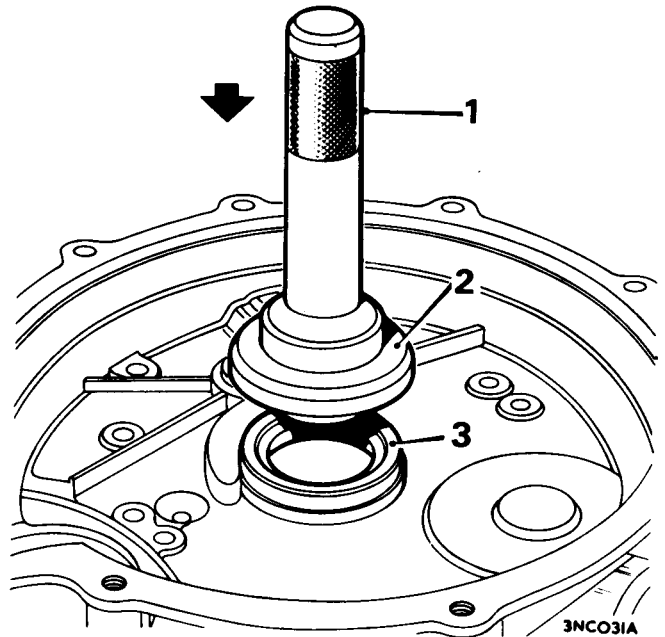

Fig. F.24
48. Fit a new primary gear oil seal into the flywheel housing, using tools 18G 134 and 18G 134BC, Fig. F.24.